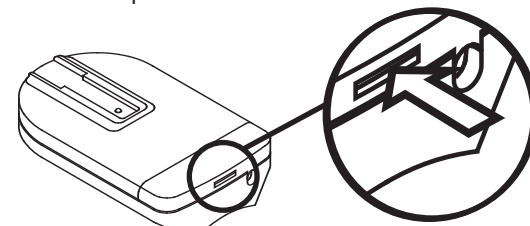

Fig. 2
- Gently push straight IN on Tab as shown Fig. 2